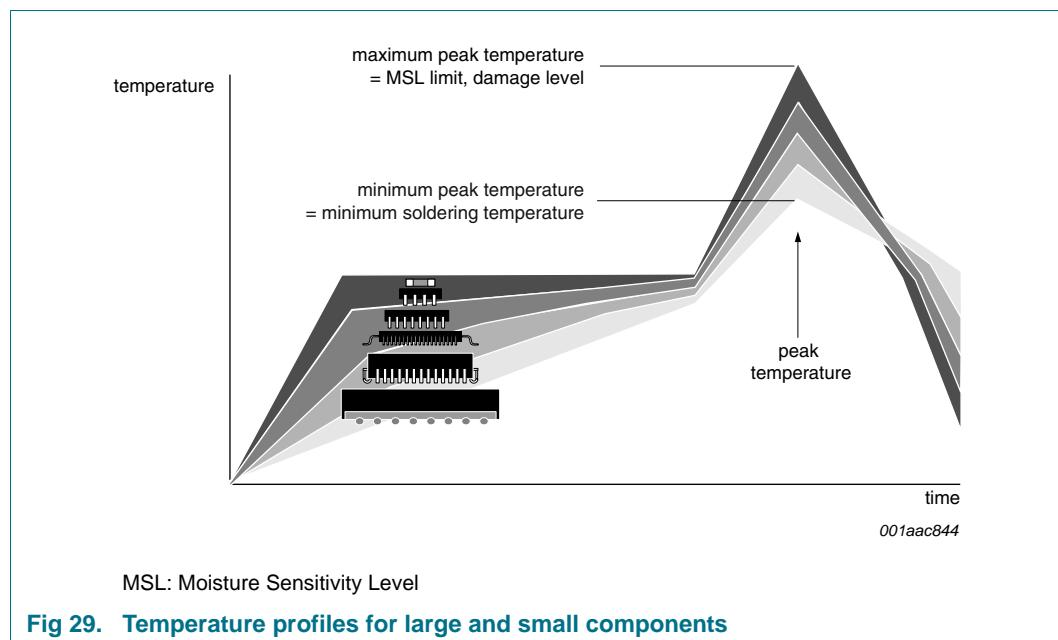

Fig 29. Temperature profiles for large and small components
- Lead-free versus SnPb soldering; note that a lead-free reflow process usually leads to higher minimum peak temperatures (see Figure 29) than a SnPb process, thus reducing the process window
Studies have shown that small packages reach higher temperatures during reflow soldering, see Figure 29.